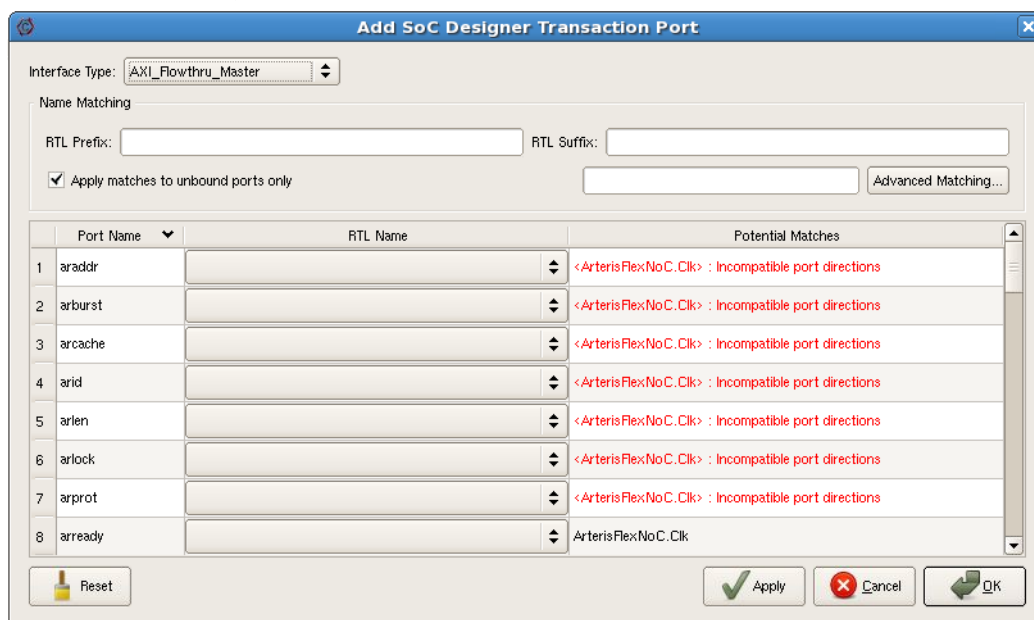

Figure 5-18 Selected Transactor in SoC Designer Transaction Port dialog
2. Click the *Interface Type* pulldown menu to display the available transactors. Select the transactor or protocol to use for your design; the example (Figure 5-18) selects an *AXI_Flowthrough_Master* transactor.